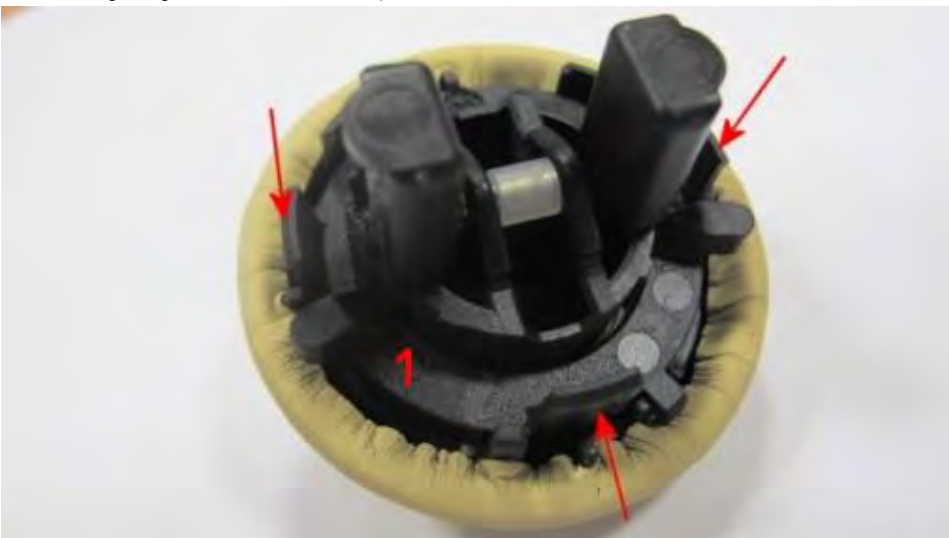

Figure 2
4. Apply adhesive, Loctite Hysol® 9464™ (source locally), to the clips (arrows) on the button holder (1) (see Figure 2)